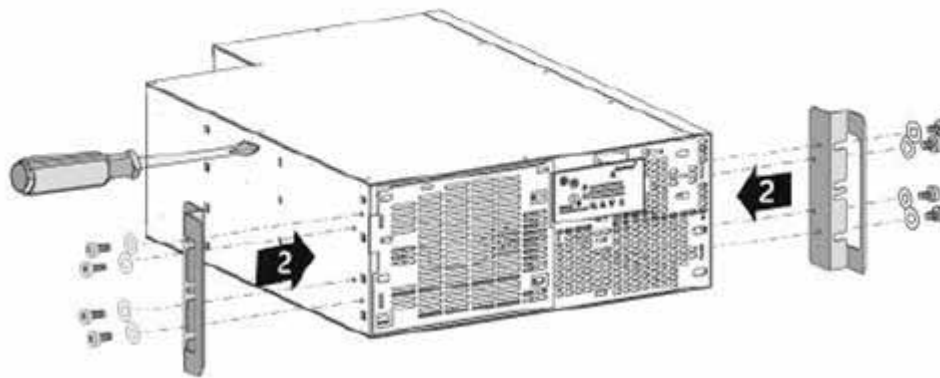

FIG 9 – XPRT-6KVA RACK MOUNT ASSEMBLY
2. Install the mounting brackets that came with the unit using the provided screws (see FIG 9 or 10)